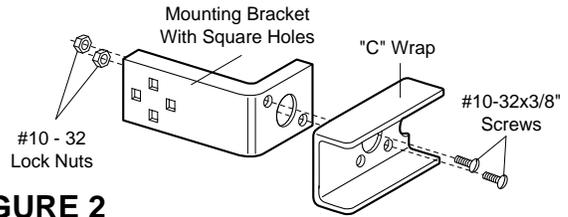

FIGURE 2
Figures 2, 3 and 4 show recommended assembly of bracket(s) and "C" wrap based on the *wall* installation of the sensors on each side of the garage door as shown on page 1, or on the *garage door tracks* themselves.
- Fasten the "C" wraps to the mounting brackets with square holes, using the hardware shown in Fig. 2.